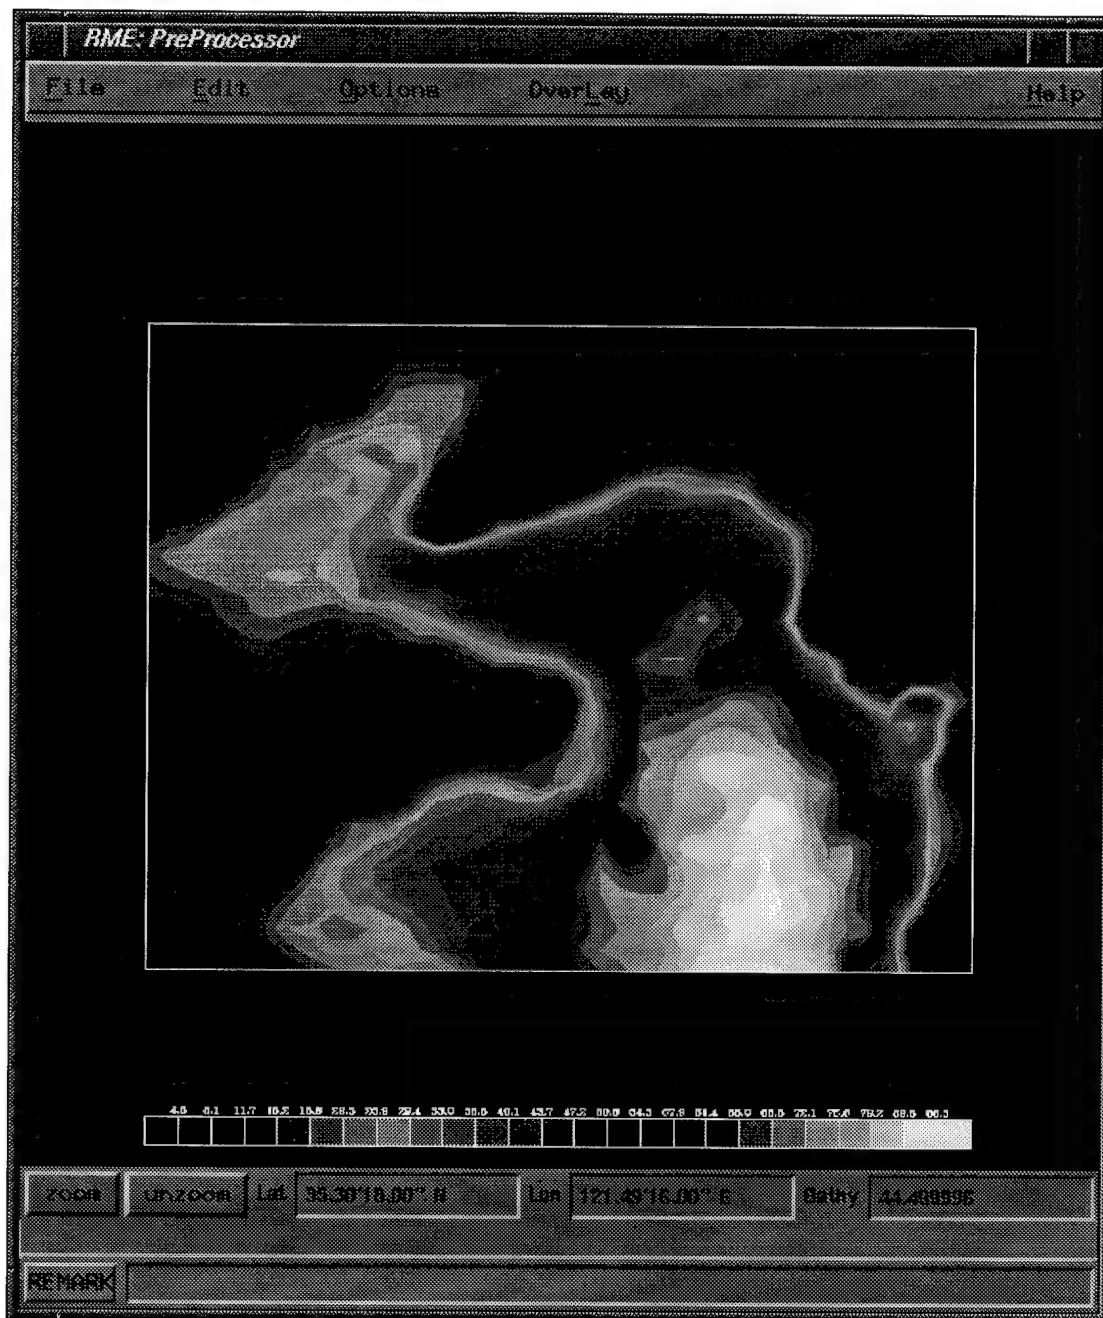
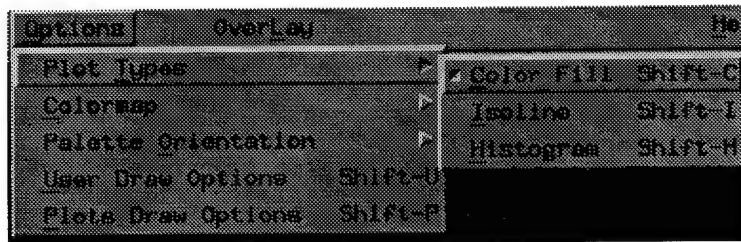

Figure 11 – Pre-Processor GUI
Figure 14 – The Options pull-down menu in the Pre-Processor
6. This pops up the 'Pre-Processor' window (Figure 11) which has features to edit bathymetry, stations and define boundary conditions.
The Menu Bar in the Pre-Processor consists of four interactive menu headers labeled 'File', 'Edit', 'Options' and 'Overlay' (Figure 11).
- Plot Types -** This button itself has three choices of plots. Since the bathymetry plot is a contour plot, only the 'Color Fill' (Figure 11) and 'Isoline' (Figure 14) are applicable.